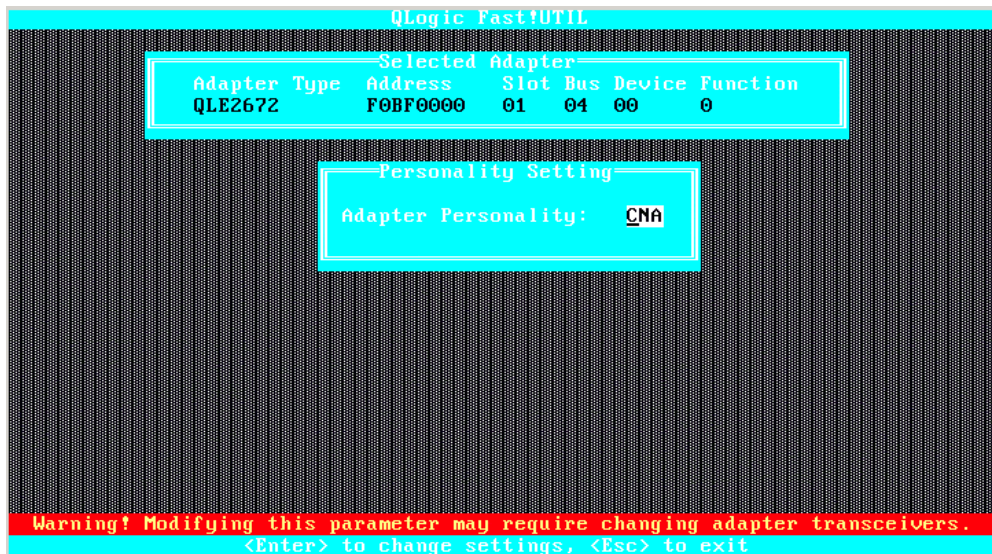

Figure 3-8. Changing the Adapter's Personality
4. To change the personality of the selected 2600 Series Adapter, press ENTER, and then press ESC to exit the menu. Figure 3-8 shows an example.